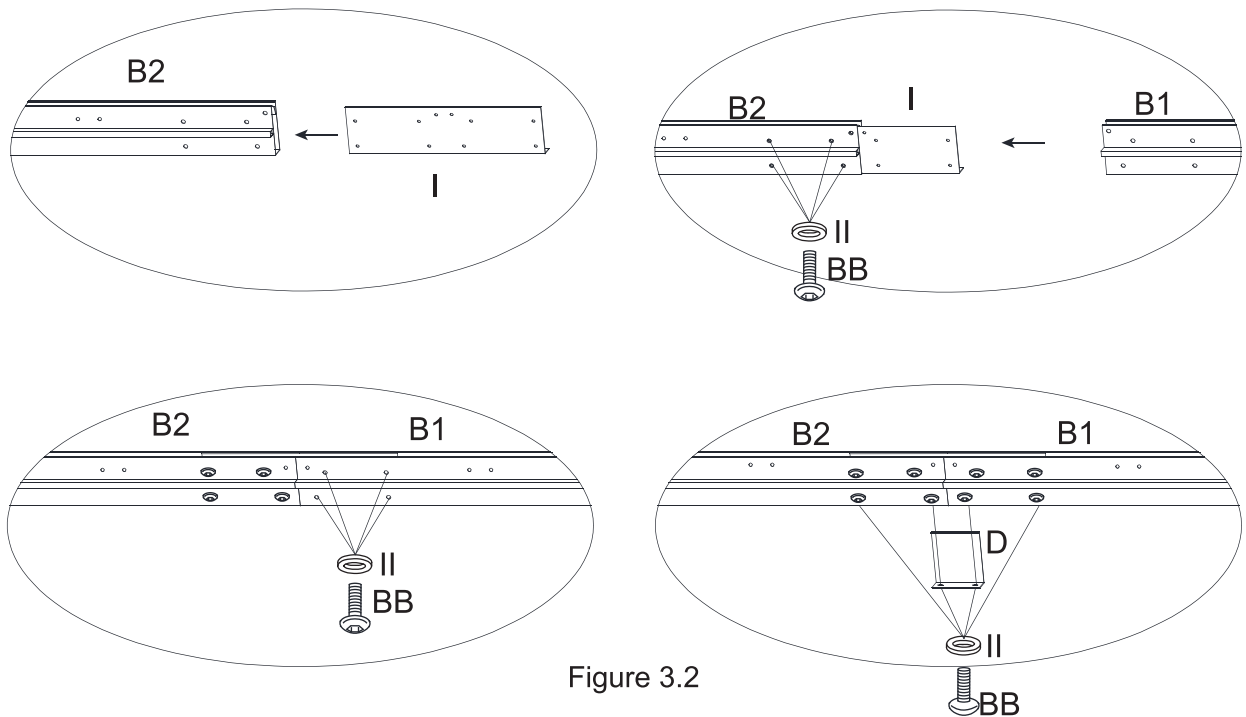

Figure 3.2
3.2. Connect the Left Lintel (B1) with the Right Lintel (B2) through the Lintel Connector - Large (I) by bolt (BB) and washer (II), then put the Lintel Cover - Center (D) onto the joint of the two lintels with bolt (BB) and washer (II), pay attention to install the screws based on the orders shown in the illustration. See Figure 3.2.